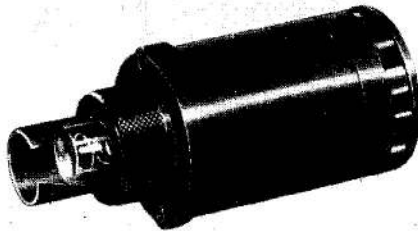

Fig. 1. Type H4201 indicating lamp
2. The unit (*fig. 1*) comprises a neon lamp and terminal block, transformer and lamp-holder assembly housed within a cylindrical